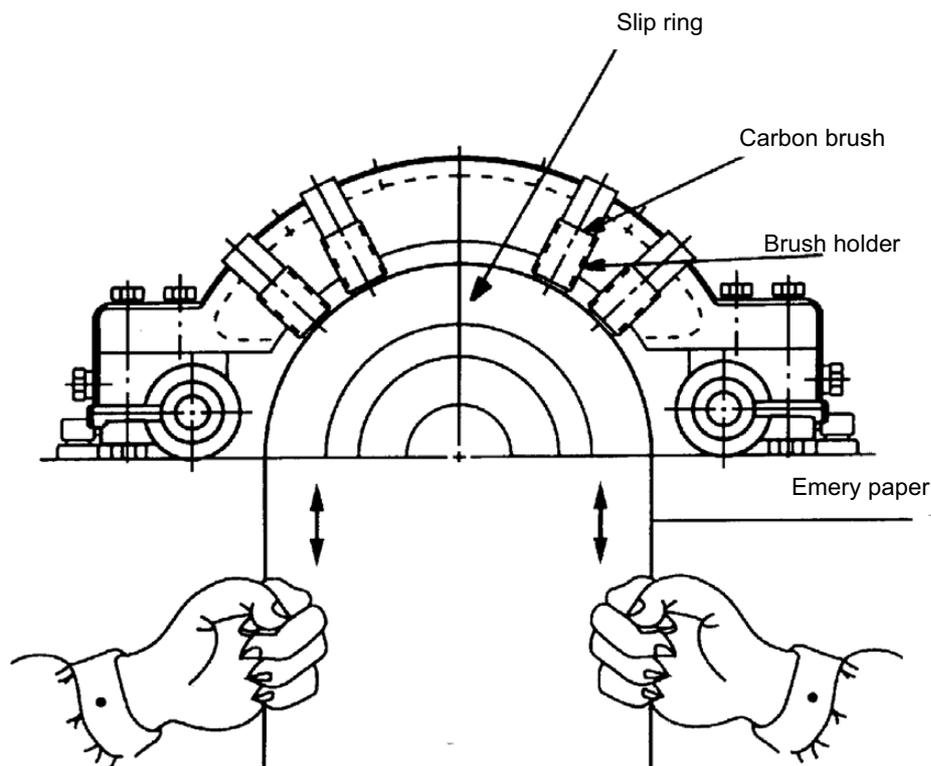

Fig. 17
- (c) Adjustment of new brushes (Shown in Fig. 17)
- (1) Polish the new brush with a file until it assumes the appropriate contour of the slip-ring which it touches.
- (2) Place sand-paper (JIS R6252 No. 40...50) on the slip-ring with the abrasive face of the paper against the brush to induce a closer contact by rubbing against each other.
- (3) Repeat item 2 with fine sand-paper (JIS R6252 No. 100 to 200) until the contact surface between brush and slip-ring exceeds 80%.
- (4) Finally, clean the contaminated slip-ring and brush with a clean cloth or compressed air.